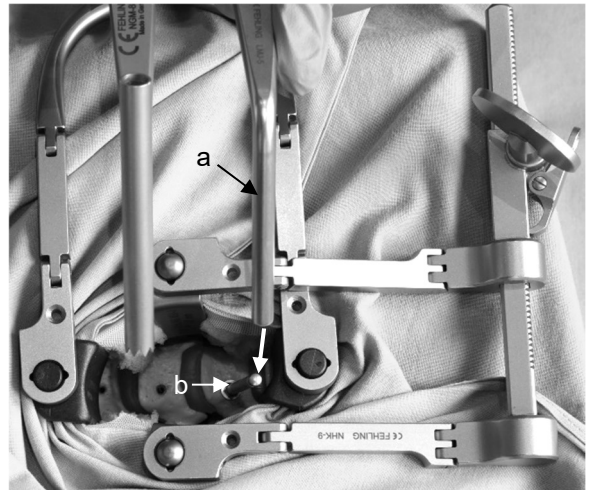

Fig. 8a
5. The retractor system with drill guide is now used. The holder tube of the fixed retractor arm (a) is guided over the distraction screw (b) (Fig. 8a).